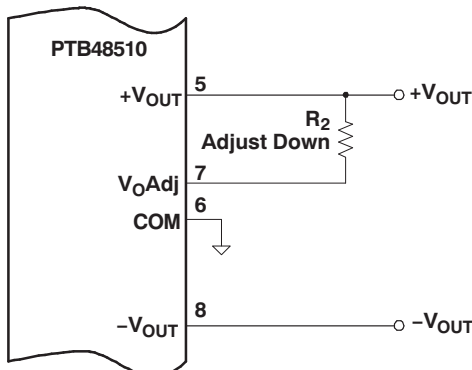

Figure 17. TITLE??
**Adjust Down:** To decrease the magnitude of both output voltages, add a resistor ( $R_2$ ), between  $V_{OAdj}$  (pin 7) and the  $+V_{OUT}$  (pin 5) voltage rail; see Figure 17.